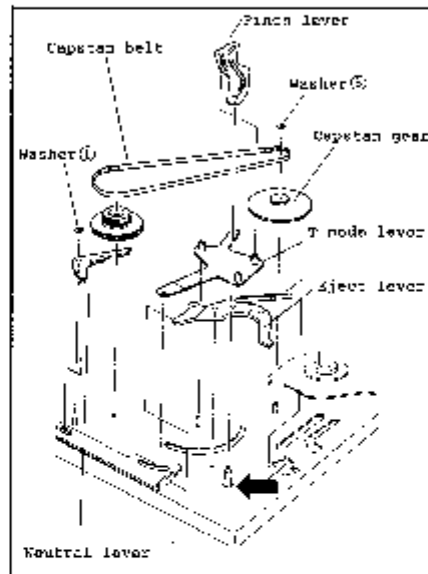

Fig. III-44-A
- (1) Apply the Grease EL-4 on the  positions in the Fig. III-44-A.
- (2) Reverse the disassembling procedures while checking the position of holes.
(Fig. III-44-A)
39. T mode Lever (Fig. III-44-B)